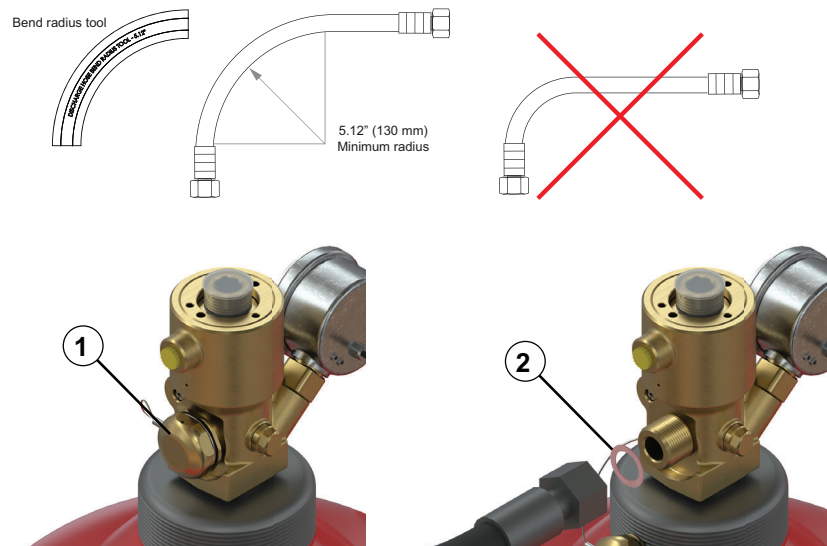
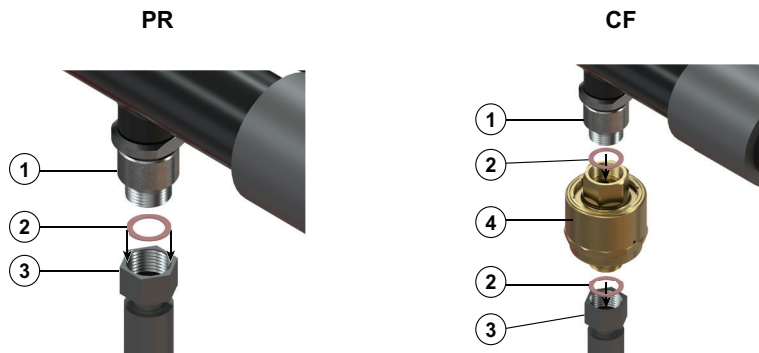

Figure 6.10: Installing the hose onto the cylinder valve
Figure 6.11: Installing the hose and/or regulator onto the manifold
- Do not bend the hose less than its **MINIMUM** radius of 5.12 inches (130 mm). Refer to Figure 6.10
2. Insert a gasket (2) into an end of the hose.
- Do not bend the hose less than its **MINIMUM** radius of 5.12 inches (130 mm). Refer to Figure 6.10 on page 80.
5. For PR only, screw the hose union (3) onto the preinstalled manifold check valve (1) to a torque of 40.16 ± 3.7 ft-lb. This concludes the procedure for the PR system.
6. For CF only, install the pressure regulator (4) between the hose (3) and the check valve (1) as shown in Figure 6.11 .